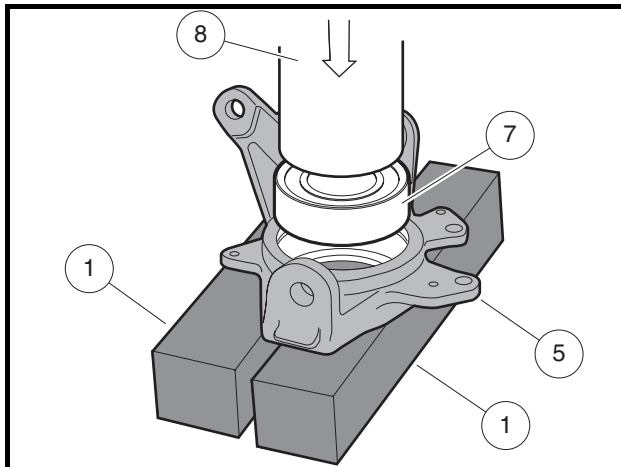

Figure 6-14 Position Upright for New Bearing
13.1. Position the upright on 2 x 2-inch, or larger, steel blocks (1) as shown (**Figure 6-14, Page 6-13**).